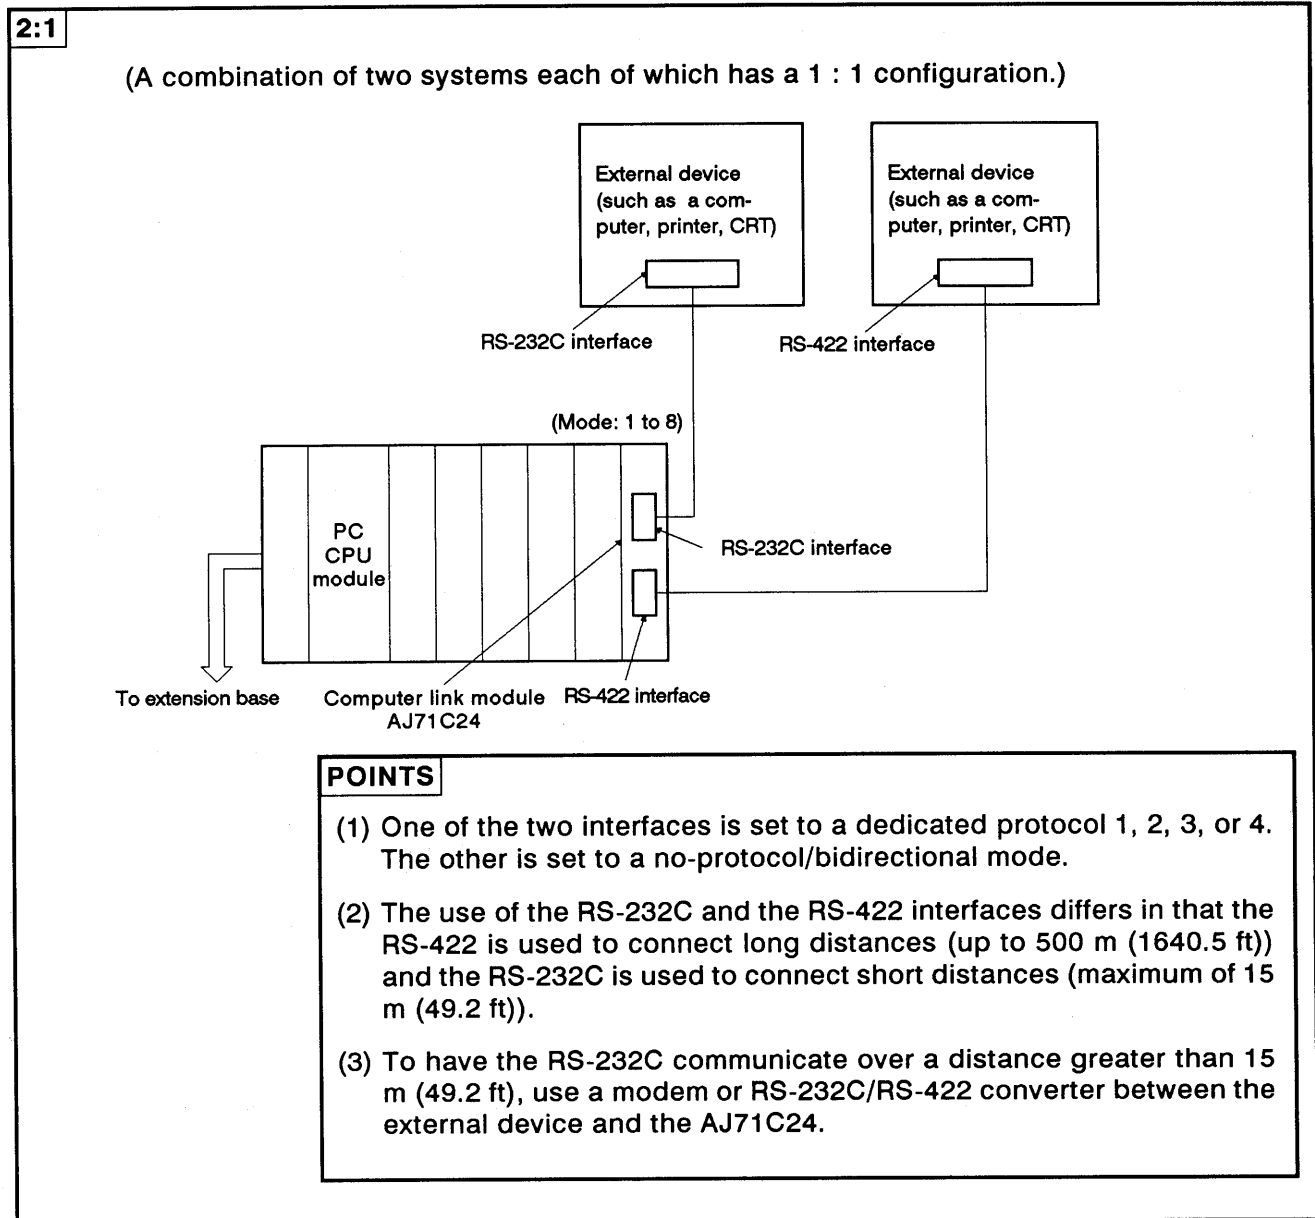

Fig. 2.4 System Configurations (III)
- (1) The system configuration for a 2 : 1 ratio of external devices (such as a computer) to a PC CPU is shown in Fig. 2.4 below.